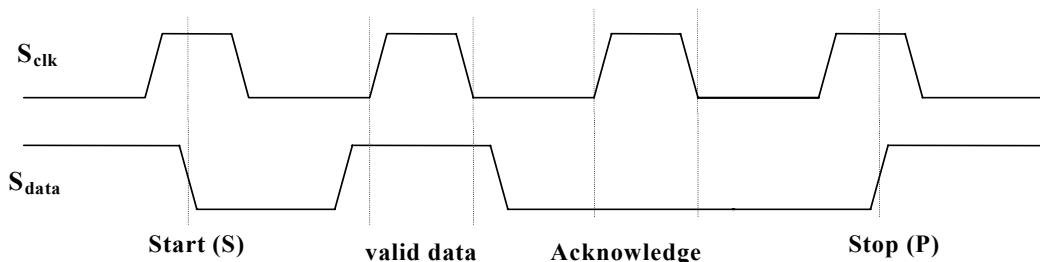

Figure 2. Serial Interface Specifications
Figure 2 shows the basic transmission specification. To begin and end a transmission, the master device generates a start signal (S) and a stop signal (P). Start (S) is defined as switching the S_{data} from HIGH to LOW while the S_{clk} is at HIGH. Similarly, stop (P) is defined as switching the S_{data} from LOW to HIGH while holding the S_{clk} HIGH. Between these two signals, data on S_{data} is synchronous with the clock on the S_{clk} .
Figure 2 shows the serial interface transfer format used with the CY2XP304. Two dummy bytes must be transferred before the first data byte. The CY2XP304 has only three bytes of latches to store information, and the third byte of data is reserved. Extra data will be ignored.